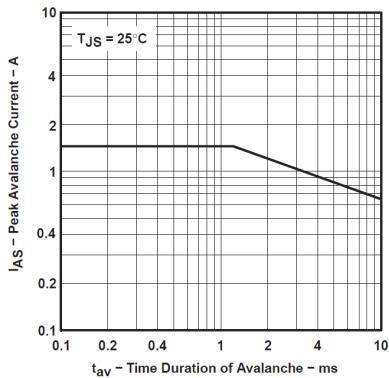

图 5-1. Peak Avalanche Current vs. Time Duration of Avalanche
- (1) Operation outside the Absolute Maximum Ratings may cause permanent device damage. Absolute Maximum Ratings do not imply functional operation of the device at these or any other conditions beyond those listed under *Recommended Operating Conditions*. If used outside the Recommended Operating Conditions but within the Absolute Maximum Ratings, the device may not be fully functional, and this may affect device reliability, functionality, performance, and shorten the device lifetime.
- (2) All voltage values are with respect to network ground terminal GND.
- (3) Pulse duration $\leq 100\mu s$, duty cycle $\leq 2\%$
- (4) DRAIN supply voltage = 15V, starting junction temperature (T_{JS}) = $25^\circ C$, $L = 100mH$, $I_{AS} = 1A$ (see 图 5-1).
- (5) See Dissipation Table